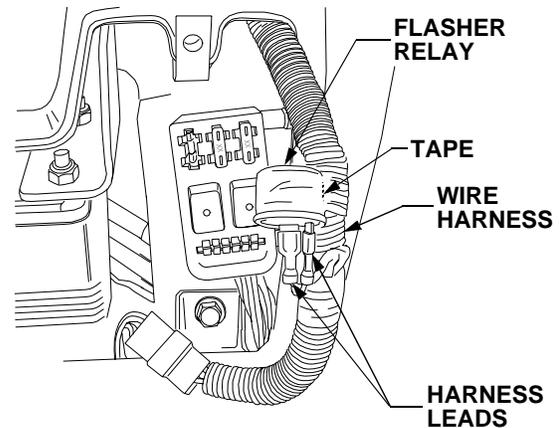

Figure 44
- Pull the wire harness from the dash opening. Cut and remove the electrical tape holding the flasher relay to the harness. See Figure 44